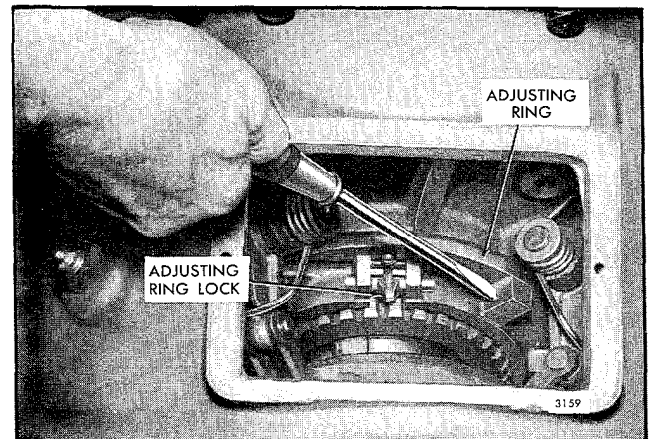

Fig. 12 - Power Take-Off Assembly Showing 14 Inch Diameter Clutch Adjustment Ring
5. On the 14" diameter single and double plate clutches, raise the end of the adjusting ring lock up out of the splined groove in the hub of the outer clutch pressure plate. Then, while holding the clutch drive shaft to prevent the clutch from turning, turn the clutch adjusting ring clockwise as shown in Fig. 12 and tighten the clutch until the desired pressure on the